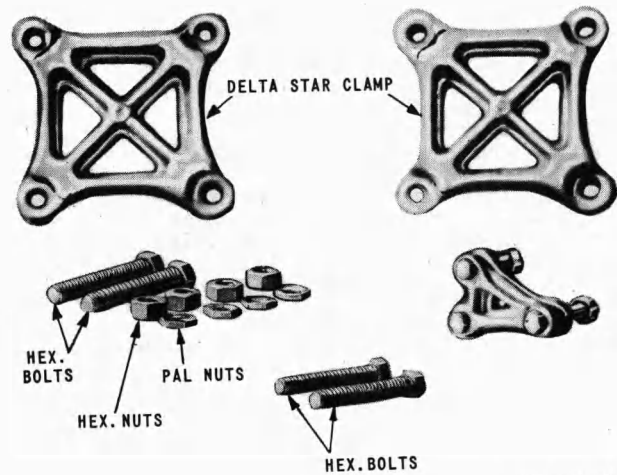

FIG. 1 BUS BAR CLAMPS AND PARTS
9.41 Bus bar clamps are used to join bus bars together without drilling. The bar contact surface of the clamp halves are convex by design. As the clamp halves are drawn down and flattened against bars the stress set up in the clamp exerts a pressure across the surface of the bars. See Figure 1.